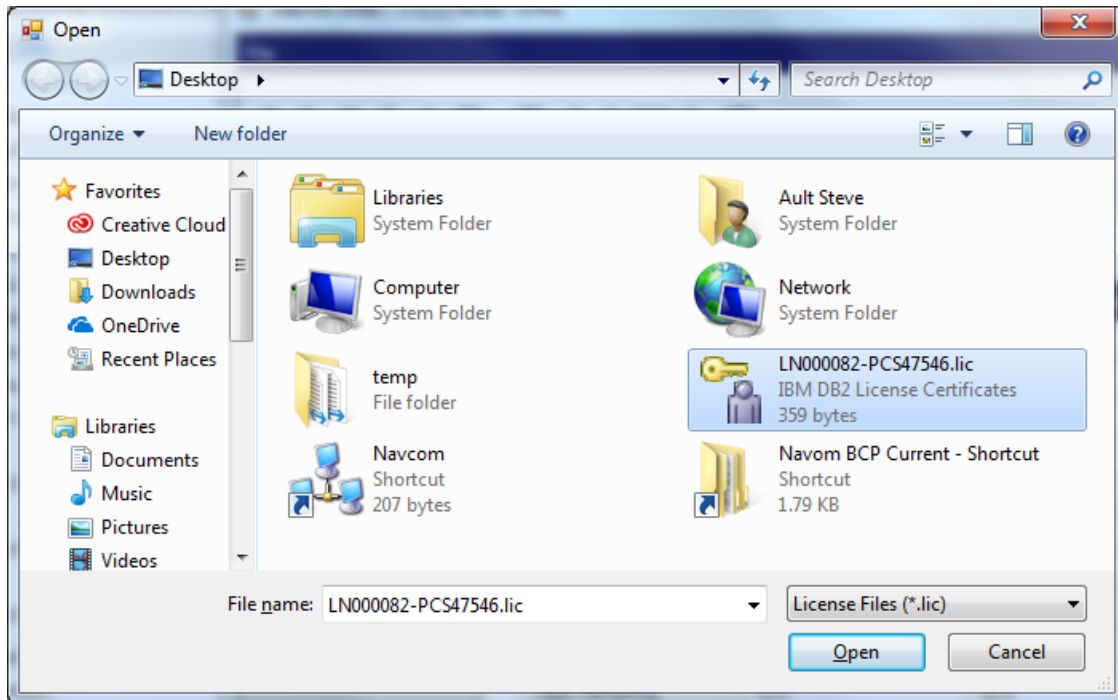

Figure 30: StarFire License Example
4. Browse to NavCom\StarFire License on the PC. Select the StarFire license file. The StarFire license file extension is *.lic. Figure 30 displays the contents of a typical StarFire license file.